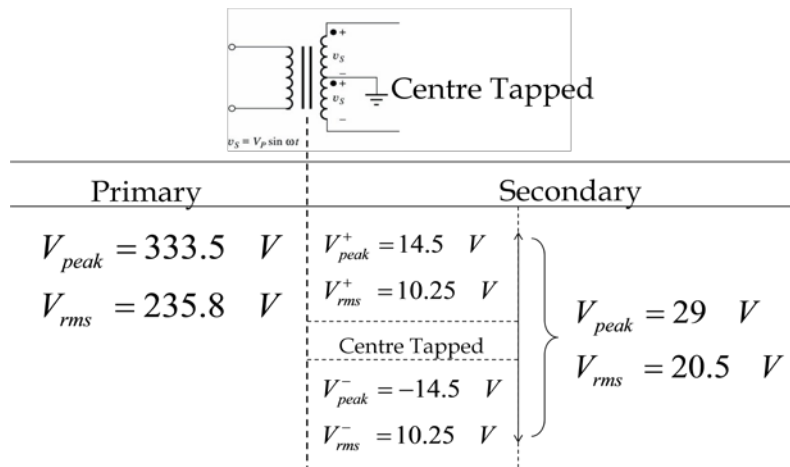

Figure 6-6: A Centre-Tapped Transformer
9. A centre tapped transformer is shown in Figure 6-6. The label '236/(10-0-10)' is represented in **rms** values. This means that the input voltage is approximately 236 Vrms and the outputs are approximately 10Vrms and 10Vrms.